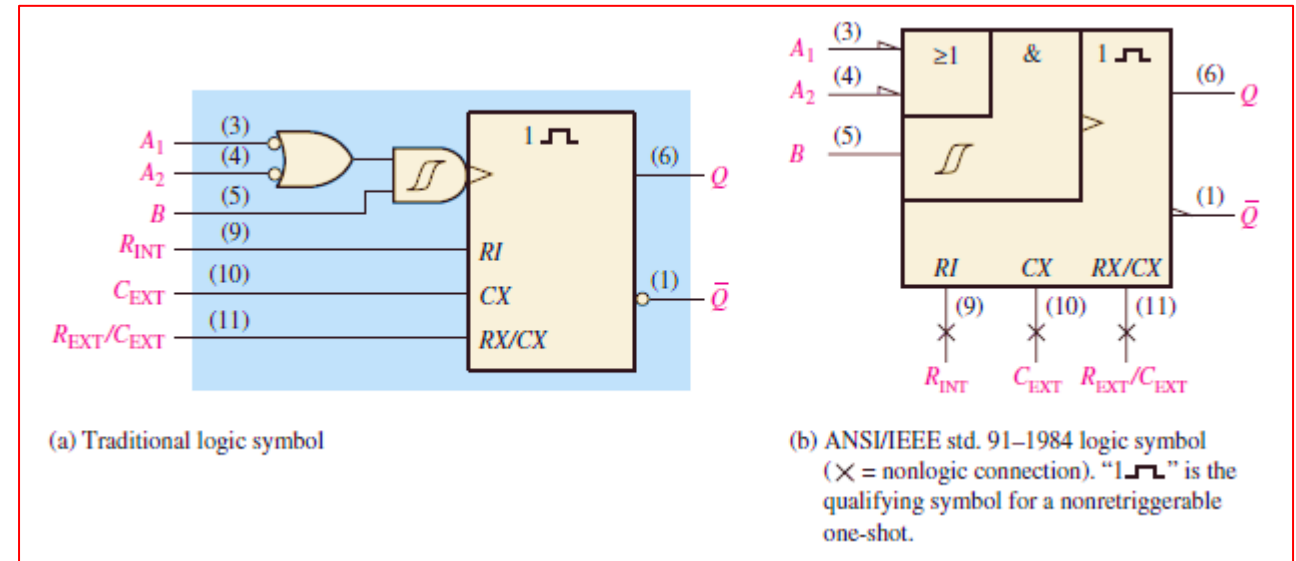

FIGURE 47 Logic symbols for the 74121 nonretriggerable one-shot.
- The 74121 is an example of a nonretriggerable IC one-shot. It has provisions for external R and C, as shown in Figure 47.